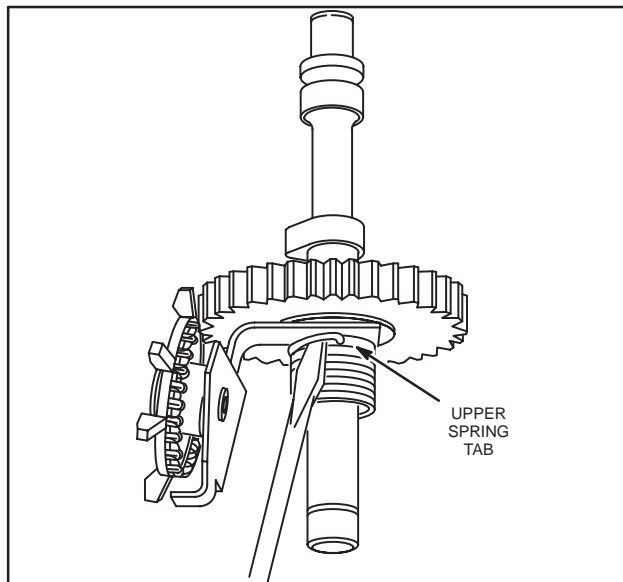

Fig. 160 – REMOVE CLUTCH SPRING
5. Slide clutch spring down, Fig. 160 and lift out upper spring tab to remove spring. Cam gear, oil slinger and clutch drive hub are serviced as an assembly.